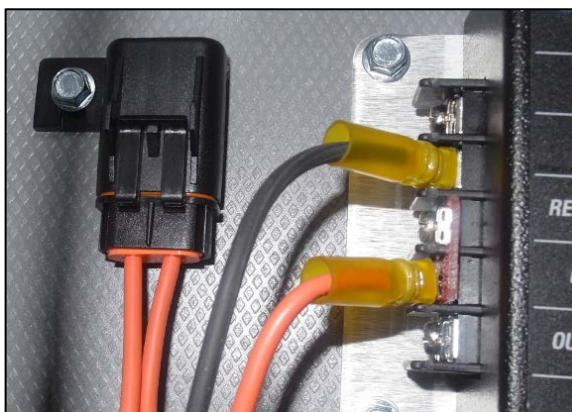

FIGURE 6
10. Install the fuse holder on the left side of the converter with one self-drilling screw and the wires downward (Figure 6).